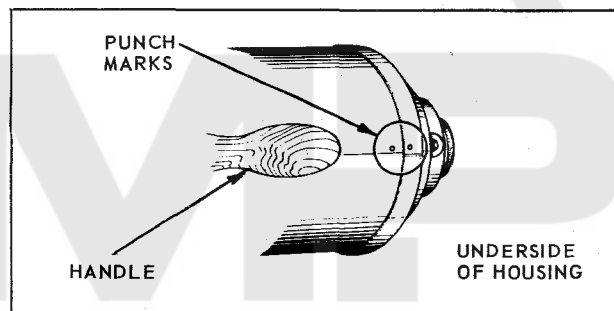

Figure 4.
- a. Back motor bearing (244). It is necessary first to remove the back housing (245) and then push the bearing out. Replace the back housing and tighten the motor bolts. Then put in the new back bearing. When installing a new bearing, place the old bearing behind it while tapping it into the back housing. Rotate the old bearing when tapping so that the pressure will be evenly distributed. In this way, neither the inner nor the outer race of the new bearing will be harmed.
b. Front motor bearing (210). Remove the armature after removing crank and back housing. Unscrew the bearing lock (211) and then push the bearing forward and out. Install the new bearing as described in 5 a
c. Crank pin bearing (215). Remove the bearing lock (216) on the face of the crank, remove the screw in the back of the crank and tap the bearing out.
- (1) The motor cylinder (236) should be replaced on the front housing (233) so that the nameplates on both sides are in the same horizontal plane.
- (2) The back housing has a punch mark on the underside which matches a punch mark on the motor cylinder. Be sure that these two marks are in line with one another when replacing the back housing on the motor cylinder. Otherwise, the motor will not function properly. See Figure 4.